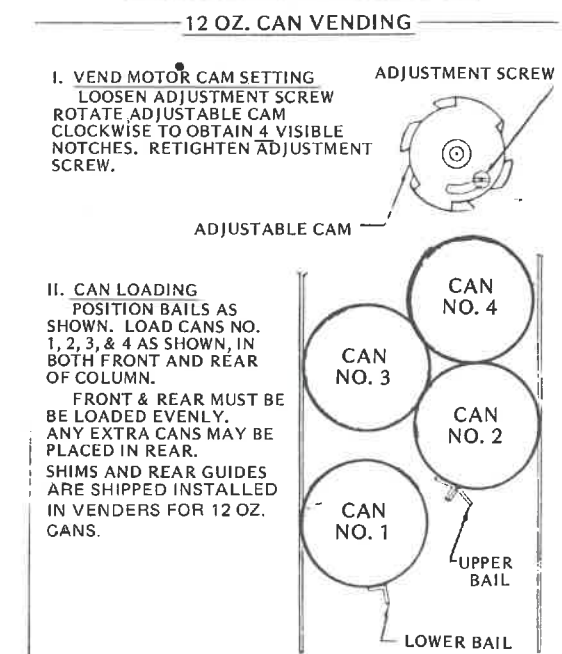

FIG. 2
2. Where Rear A / Front B appears it means that the rod is installed (spring end first) in A (Hole) at rear of vend rotor--the front end of the same rod is installed in B (Hole) at front of vend rotor. See Fig. 2.